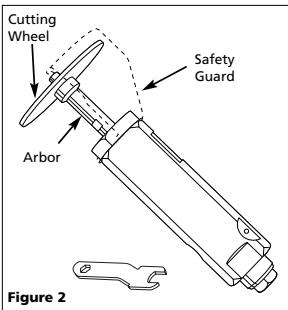

Figure 2
3. Center new cut-off wheel on arbor (See Figure 2). Make sure cut-off wheel is rated for RPM of air tool.